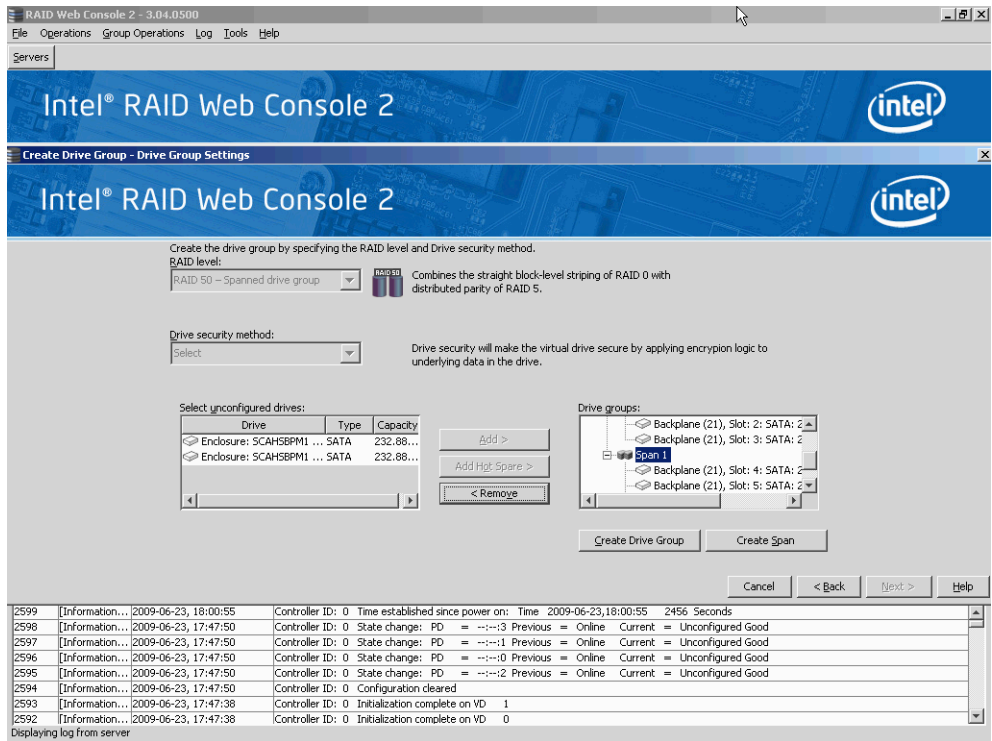

Figure 126. Span 0 and Span 1 of Drive Group 0
- e. The selected drives appear under **Span 1** below **Drive Group 0**, as shown in Figure 126